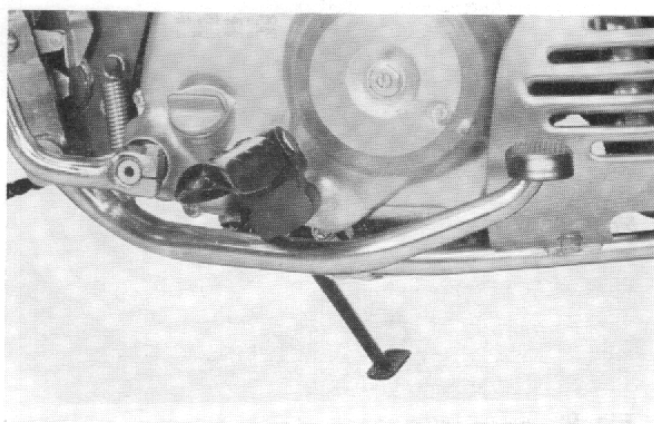

Fig. 94
- (1) Clean all parts and lubricate the brake pedal pivot pipe with grease before reassembly. Reinstall the rear brake arm, brake pedal middle arm and brake pedal to the pivot pipe.
- (2) Hook the brake pedal spring, and stop switch spring on the specified position. Connect the rear brake cable to the rear brake arm.
- (3) Reinstall the step bar on the crankcase with four 8 mm hex. bolts. (Fig. 94).
- (4) Reinstall the muffler.
- (5) After connecting the rear brake, adjust the brake pedal play to 0.787~1.181 in. (2~3 cm)